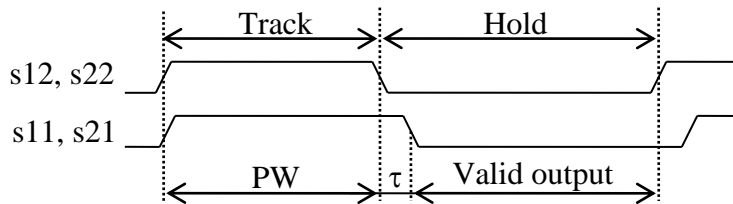

Fig. 3. Sampling Diagram
The input clock buffer converts the external clock **c1p/c1n** and **c2p/c2n** into two pairs of internal signals **s11/s12** and **s21/s22** with controlled pulse width (PW) and delay (τ) between them as shown in Fig. 3.